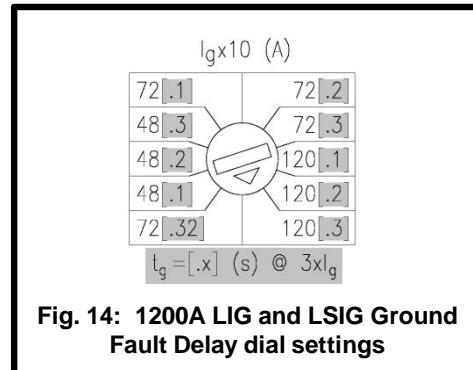

Fig. 14: 1200A LIG and LSIG Ground Fault Delay dial settings
Circuit breakers with the LIG and LSIG catalog number suffixes, have an adjustment to set the Ground Fault Delay. Ground Fault Delay is an I^2t time delay function based on a calibration point of 3 times the Ground Fault Pickup (I_g) setting. As shown in Fig. 14, there are four (4) Ground Fault Delay settings selectable based on the Ground Fault Pickup (I_g) setting: .1s, .2s, .3s and .32s.